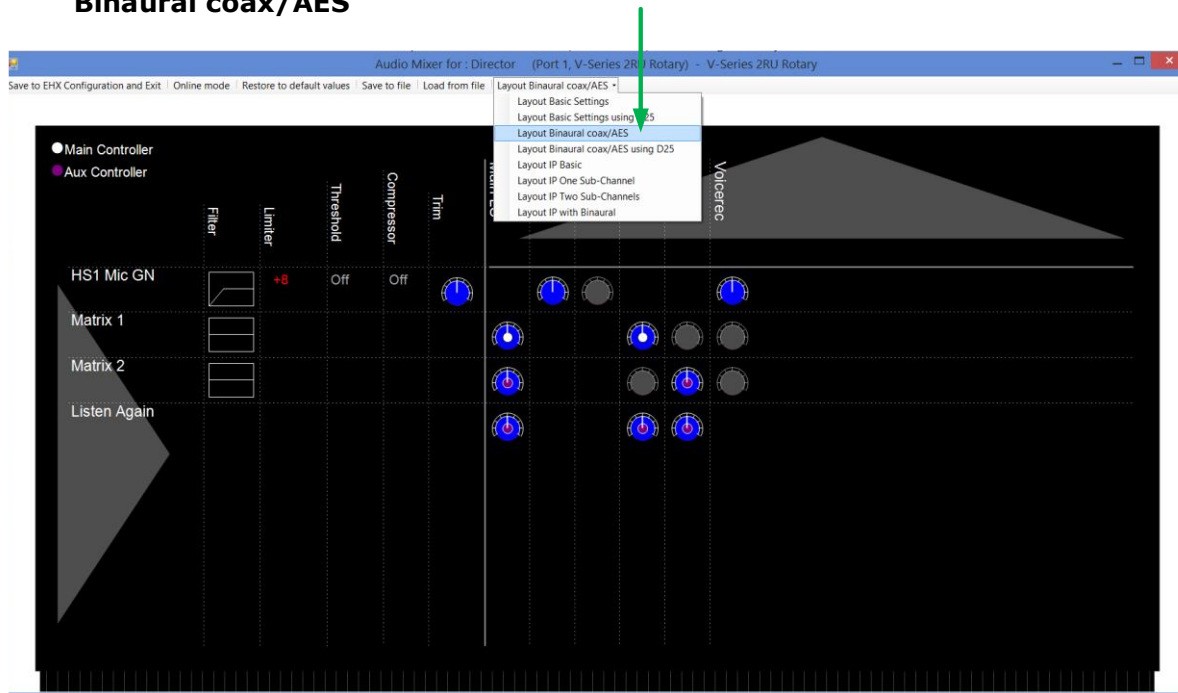

Figure 6-6 Set binaural viewing options in the audio mixer
- 6) Select **Configuration>Panels>Audio Mixer>Layout Basic Settings** in the EHX software and chose either **Layout Binaural coax/AES** or **Layout Binaural coax/AES + D25**. See Fig. 6.6.